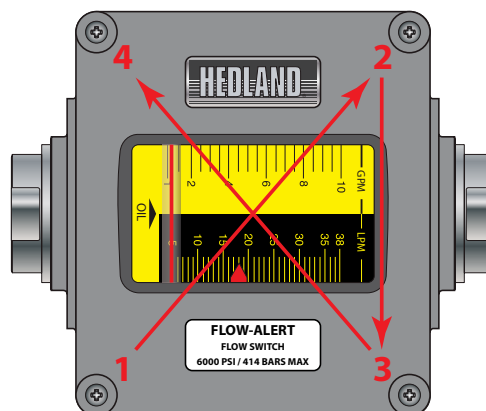

Figure 7: Cover screw tightening sequence
6. Install the cover gasket and front cover and secure with screws. To properly seat the cover gasket, tighten cover screws in a crisscross pattern as show in Figure 7.
6. Install the front cover and gasket. To properly seat the cover gasket, tighten the cover screws in a crisscross pattern as shown in *Figure 7* on page 8.
9. Install the front cover and gasket. To properly seat the cover gasket, tighten cover screws in a crisscross pattern as shown in *Figure 7 on page 8*.
17. Install the front cover and gasket. To properly seat the cover gasket, tighten the cover screws in a crisscross pattern as shown in *Figure 7 on page 8*.